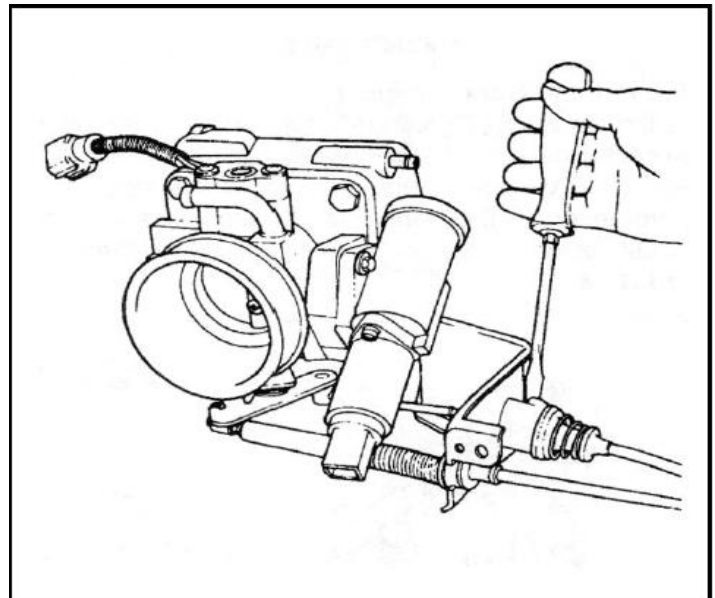

FIGURE 7
- 5.7 Using a screwdriver or pointed tool, pry up the white toggle lever on the cable adjuster located immediately behind the throttle body cable mounting bracket. (See Fig.7). The adjuster pre load spring should cause the adjusting slider to move away from the throttle body and TV pressure should increase.